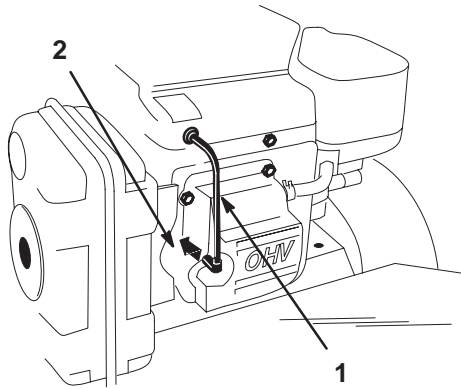

Figure 26
2. Pull the wire(s) off the spark plug(s) (Fig. 26). Now clean around the spark plug(s) to prevent dirt from falling into the engine and potentially causing damage.
3. Push the wire(s) onto the spark plug(s) (Fig. 26).